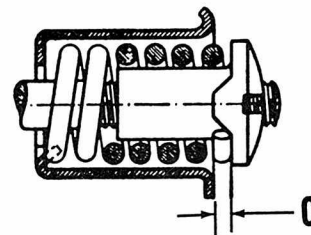

Fig. A2-6—Clearance (C) should be more than 0.06 inch. If clutch slips when adjusted to minimum clearance, renew plates as necessary.
(outside) steel plate has the internal drive lugs bent in (toward the gear case). When adjusting the clutch spring nuts (17), tighten all nuts evenly until clutch does not slip. Springs can be adjusted through the small cover on right side cover after unit is assembled. Minimum clearance between adjuster nuts (17) and spring cups (15) is 0.06 inch as shown at (C—Fig. A2-6).